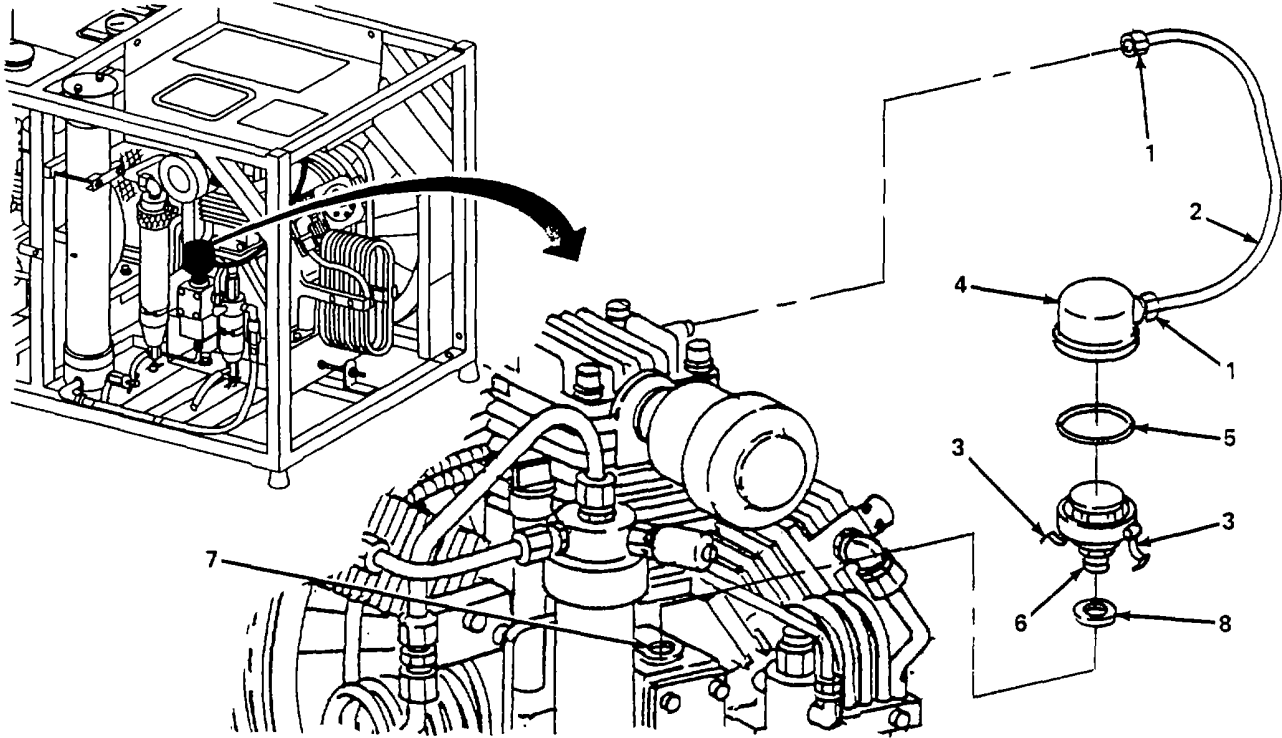

Figure 4-13. Crankcase Breather Assembly, Service.
a. **Service**. (figure 4-13)
- (1) Loosen two connector nuts (1) and remove line (2).
- (2) Unsnap two clips (3) and remove cover (4) and preformed packing (5). Discard preformed packing (5).
- (3) Ensure mating area between base (6) and crankcase (7) is clean and all dirt and debris is removed.
- (4) Remove base (6) and gasket (8).
- (5) Clean base (6) and cover (4) with dry cleaning solvent and dry thoroughly.
- (6) Inspect cover (4) and replace if cracked.
- (7) Inspect base (6) and replace if screen is damaged or excessively dirty.
- (8) Install base (6) and gasket (8).